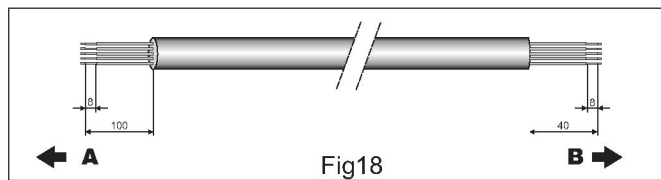

Fig.18 A. OUTDOOR B. INDOOR
2. Prepare the multiple wire(7)cable ends for connection as shown in fig.18.